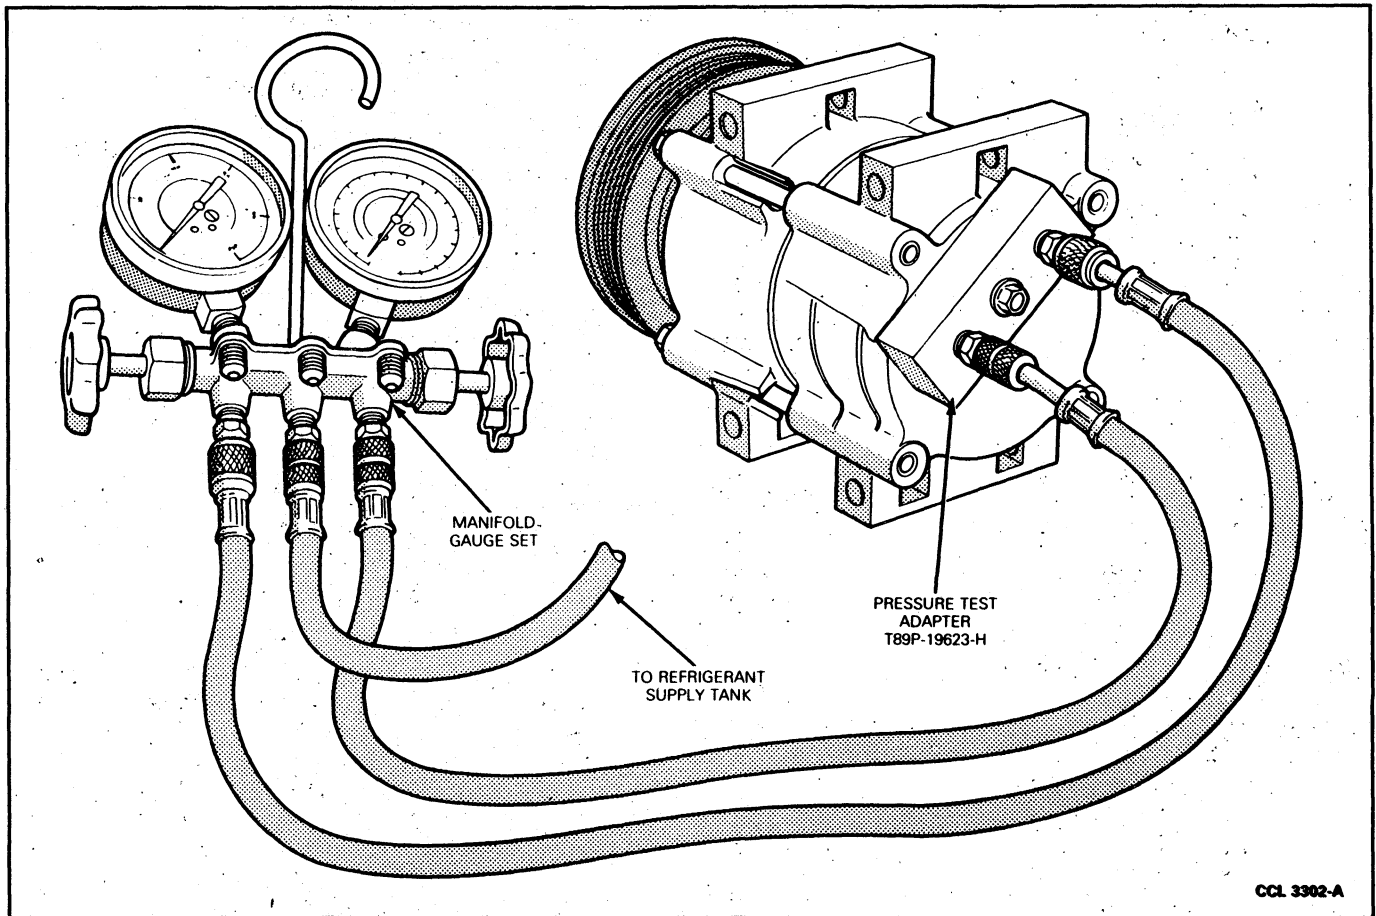

FIG. 2 Compressor Leak Test
3. Connect the high and low pressure lines of a manifold gauge set to the corresponding fittings on the Manifold Pressure Test Fitting Tool (Fig. 2).